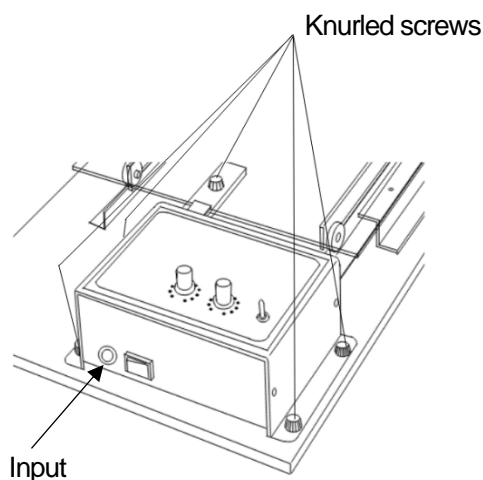
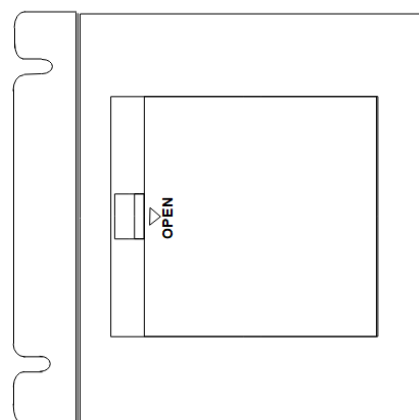

Fig. 1
Fig. 2
1) In case of using four (4) size AA batteries (sold separately):
Remove all the four (4) knurled screws securing the drive-control unit to the wooden base, as well as the knurled screw connecting the drive-control unit with the vibration plate (see Fig. 1). Remove the cover of the battery box found on the back surface of the drive-control unit to load four (4) size AA batteries (see Fig. 2).
Plug the AC adapter (DC6V, 2A) into the “Input” port found on the side of the drive-control unit (see Fig. 1). Use an AC adapter with rated output of “DC6V, 2A” only.